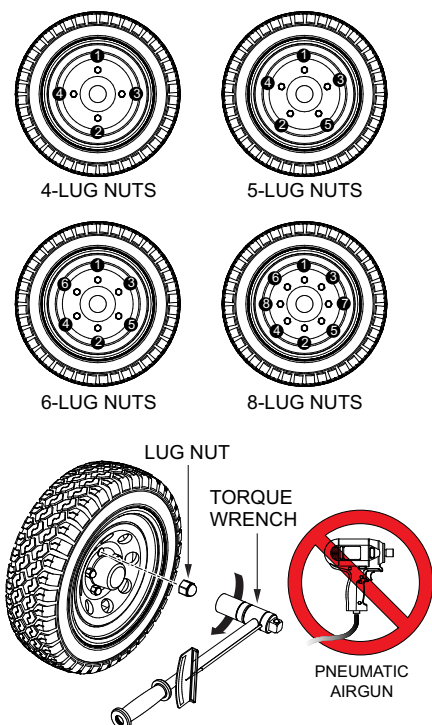

Figure 38. Wheel Lug Nuts Tightening Sequence
2. Torque all lug nuts in sequence. See Figure 38. **DO NOT** torque the wheel lug nuts all the way down. Tighten (torque) each lug nut in three separate passes as defined by Table 9.